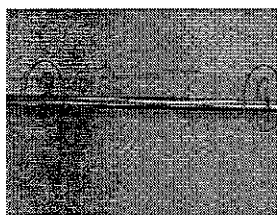

fig.1
**! - Before moving the mixer in this way, make sure the tank guard safety hook (ref.12, fig.1) is engaged.**
Connect the mains power cable to the plug on the electrical panel. Start the mixer with the switch on the cabinet (ref.8, fig.1).
1. Switch the machine off by setting the power switch (ref.8, fig.1) to "0".
2. Invert the direction of rotation of the blades by setting the switch (ref.8, fig.1) to "2".
3. Wait for a short time (5-10 seconds); then switch the machine off by setting the power switch (ref.8, fig.1) to "0".
4. Restore normal operation by turning the power switch (ref.8, fig.1) to "1".
**⚠** - Periodically check, by raising the guard (ref.10, fig.1) 10mm, that the machine stops as soon as the tank guard is opened.
1. Undo the bolts (ref.20, fig.1) and remove the guard (ref.24, fig.1).
2. To refit the guard (ref.24, fig.1) align its holes with the mount holes and reinstall the bolts (ref.20, fig.1).
INSERT THE COTTER PINS INTO THE TWO THROUGH HOLES IN THE AXLE (FIG. 1)